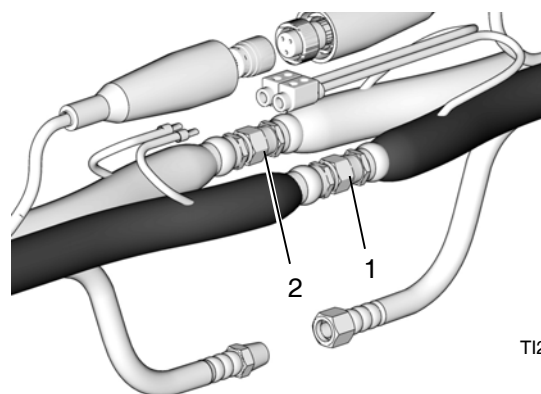

FIG. 3
2. Connect fluid hoses (1, 2) and tighten. See maximum torque specifications below and FIG. 3. Do not over-torque.